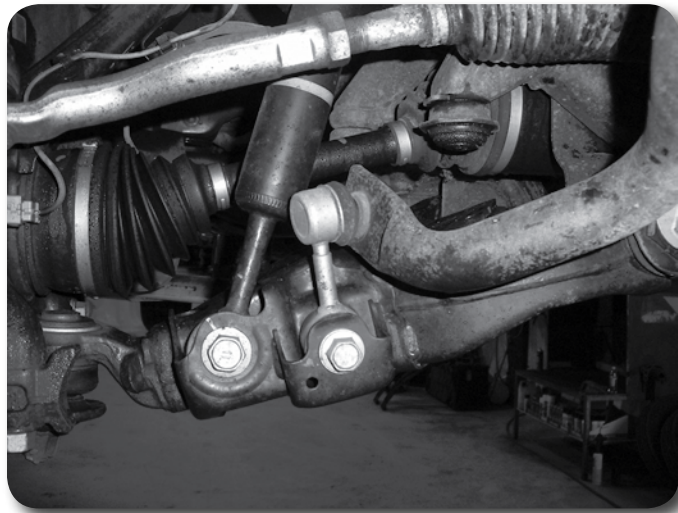

Figure 1
4. Disconnect the sway bar links from the lower control arms. **Figure 1** Save hardware.
9. Remove the bolt mounting the strut to the lower control arm. **Figure 1** Save hardware.